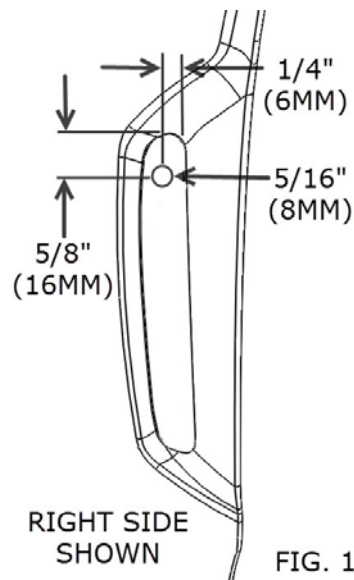

FIG. 1
2. USING A MARKER OR A PENCIL MARK THE LOCATION SHOWN IN FIGURE 1 ON BOTH THE RIGHT AND LEFT VERTICAL INTAKES ON THE FRONT OF THE FAIRING.